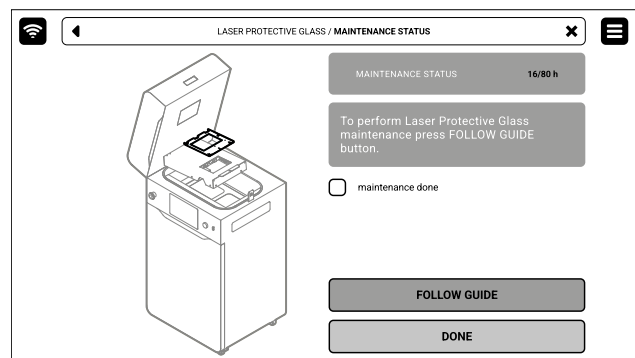

Fig. 12.7. The screen of the maintenance of the laser protection glass.
3. In this case, mark **MAINTENANCE DONE** once you have completed the cleaning procedure, and then the **DONE** button. The timer will reset to zero (fig. 12.7).